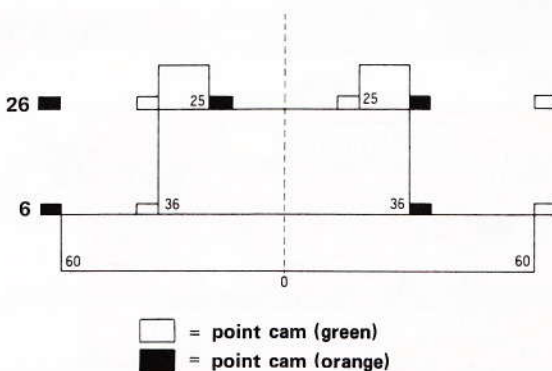

Fig. 125
11. Thread black into thread mouth II and continue knitting. When figure 6 appears on the card place the point cams as in the lower part of fig. 125.
13. When the figure 26 appears place the two other point cams as shown in the upper part of fig. 125.